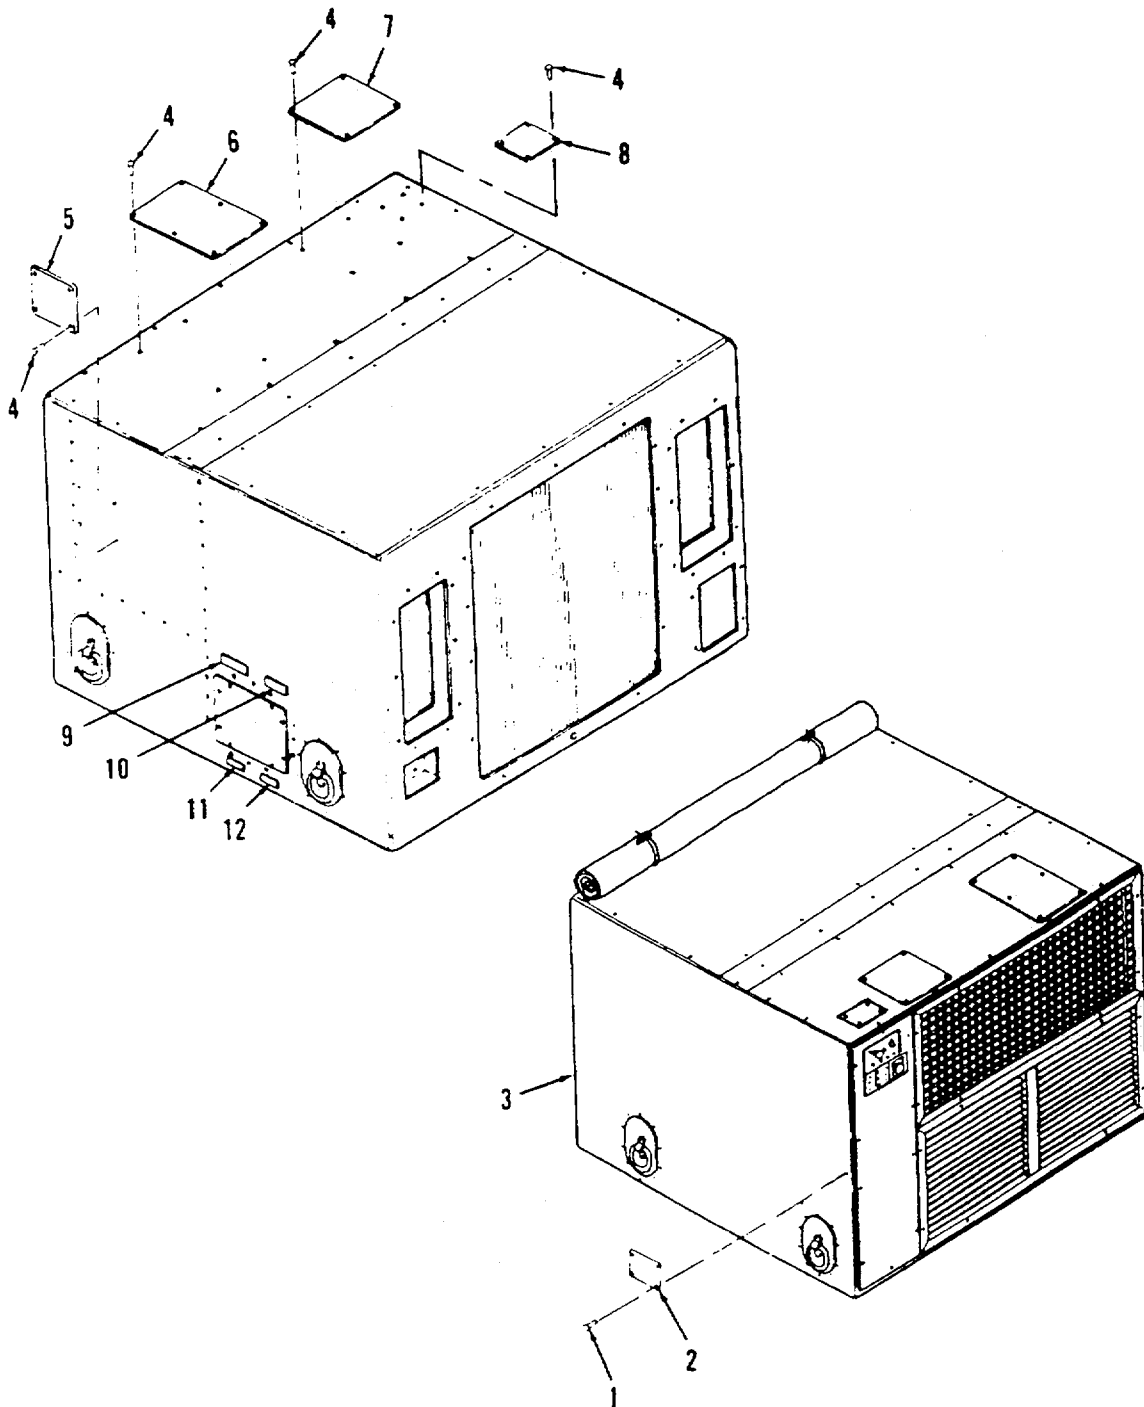

Figure 3-15. Information Plates.
**a. Removal** (Refer to Figure 3-15).
- (1) Drill out four rivets (1) and information plate (2) from side of unit (3).
- (2) Drill out eighteen rivets (4) and information plates (5), (6), (7), and (8).
- (3) Remove identification plates (9), (10), (11), and (12) from side of unit (3).